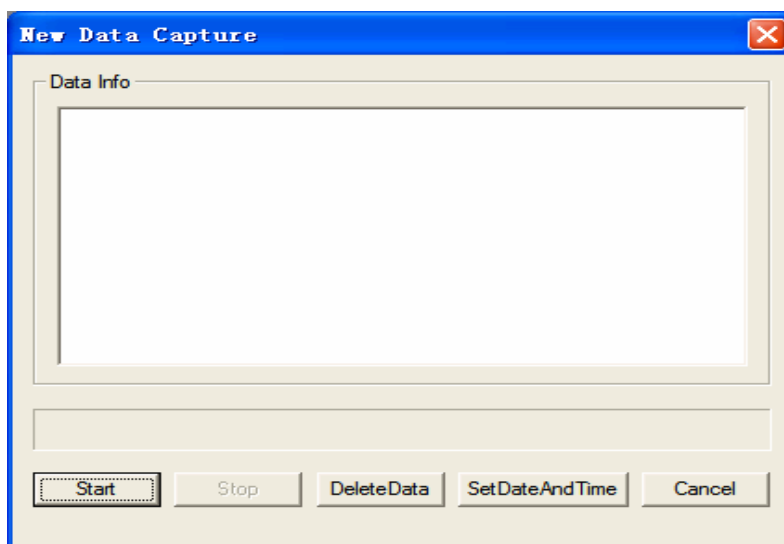
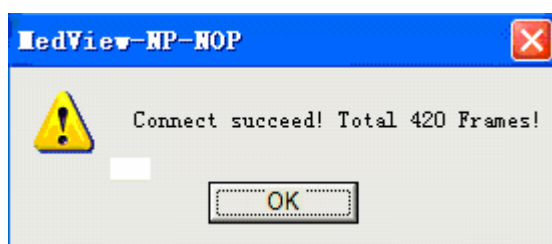
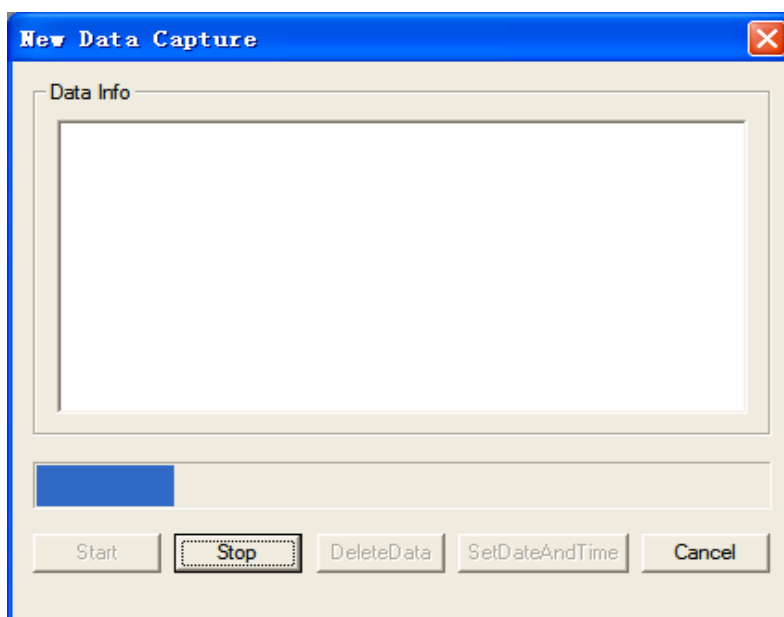

Figure 3-3
Figure 3-4
Figure 3-5
3.1.4 Click "Start" button, in Figure 3-3 then an interface will appear as shown in Figure 3-4, This action aims at the device that cannot upload data automatically, such as MD300I、MD2000B and MD300K3.
3.1.5 When the device that can transmit data is well connected to the computer, you will see the window as shown in Figure 3-4, Click "OK" button, then the data starts transmit. The interface as shown in Figure 3-5.
Definitions of Functional buttons in fig.3-5: